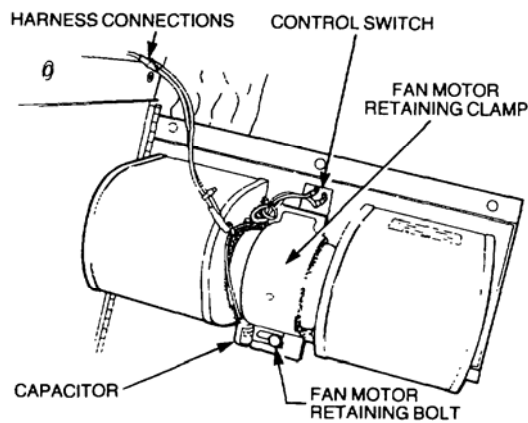

Figure 10 Fan Motor Removal
- g. Tag and disconnect the wires from the control switch and fan motor (refer Figure 10).